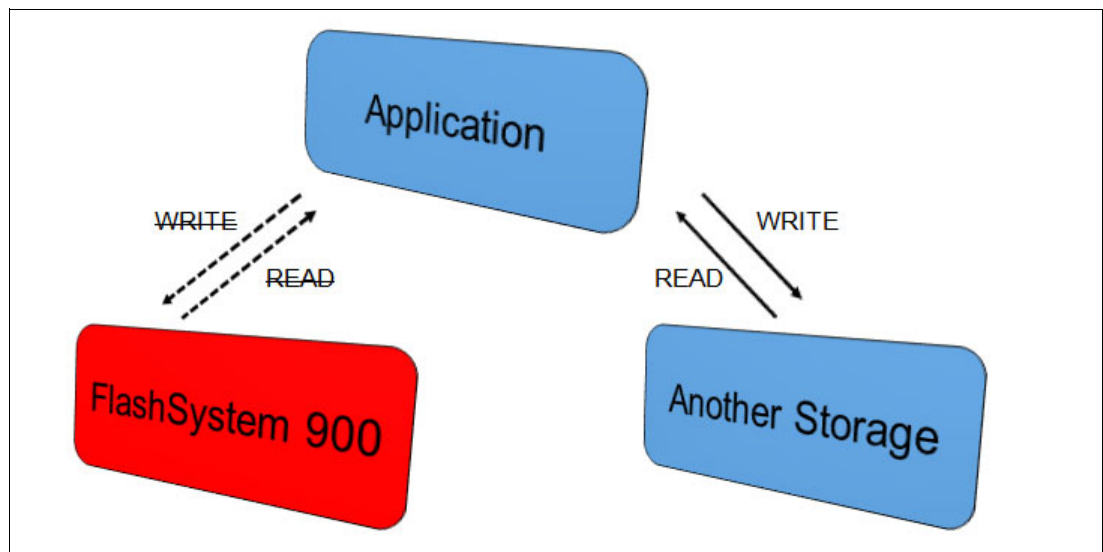

Figure 9-3 Preferred in a disaster situation on the FlashSystem 900
The preferred read solution adds another level of protection, as shown in Figure 9-3. For example, if a power failure occurs in a disaster situation on the FlashSystem 900 and it becomes unavailable, the application continues to access the data without interruption and without data loss because, in preferred read, all the data is mirrored (to both storage products).
**Important:** For the example that is shown in Figure 9-3, the FlashSystem is the failed component. An important consideration in a disaster recovery plan is that the other storage can also fail. Ensure that alerts from hosts and storage are monitored in case one of the components in a preferred read relationship stops responding.